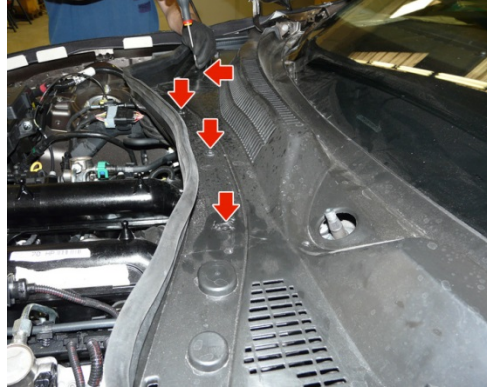

Fig.4
- d. Remove the exterior lower windshield trim. (Fig.4)